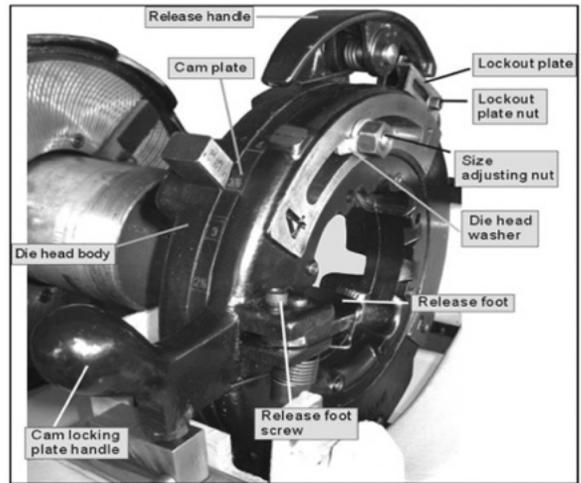

Fig 3
- 3. Position lockout plate IN. (Figures 3 & 4)
- 1. Remove release foot screw from release foot pivot block. Unhook release foot spring from release foot. Rotate release foot out until hole in foot lines up with screw hole in pivot block. Reinsert screw until it engages release foot (Figures 3 & 5).
- 2. Position lockout plate OUT (Figures 3 & 5).
- 3. Push carriage sine bar to far right end of carriage and rotate sine bar hook around until it engages the hole in end of carriage (Figures 3 & 5).
- 7. When desired length of thread has been reached, depress release handle to disengage latch (Figure 3). Die head will open.